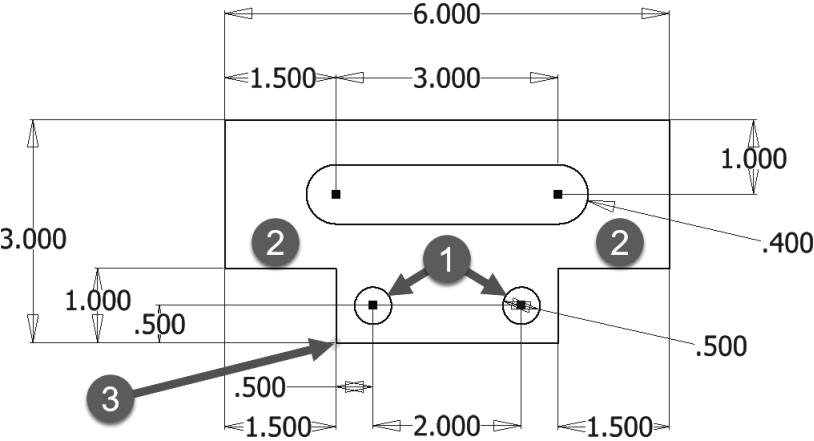

Figure 2.94
- 14 Apply a horizontal constraint between the center points of the two circles labeled (1) in Figure 2.94.
- 15 Apply a collinear constraint between the two middle horizontal lines labeled (2).
- 17 The sketch is free to move. To constrain the sketch to the origin, drag the lower-left corner of the sketch labeled (3) in the following image to the origin point of the sketch (0,0). Or you could add a coincident constraint between the origin point and the left point on the bottom line.